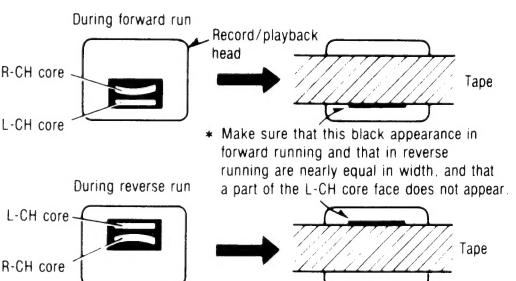

Fig. 4
4. Install a test tape (tape with mirror: QZZCRD) on the recorder; place the recorder in the FORWARD PLAY mode. Make fine adjustments of the erase head height as necessary, to attain on the record/playback head face the tape position shown in fig. 4.
5. Run the tape in the forward play mode and check it for zigzag running. (Shown in fig. 4)
7. Repeat steps 5 and 6 two or three times and verify that the tape position shown in fig. 4 is ensured.